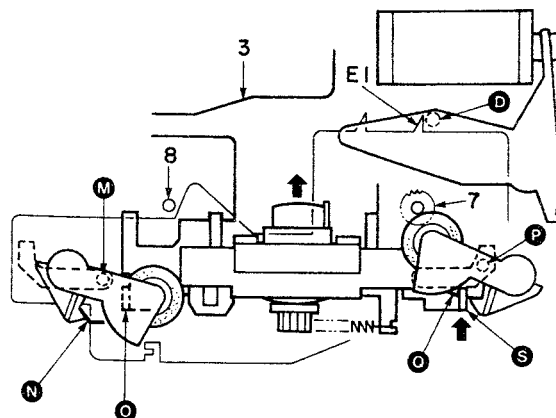

Fig. 7 (Perspective view from the front)
1-13) When the SUB-CHASSIS comes to the top, the spring (N) of the pinch roller (L) does not contact the SUB-CHASSIS edge (H) because the SLIDER is fixed in position of Fig. 7 by the pin (O) of the FD ARM, and the pinch roller is not pressed against the capstan because the boss (M) is held by the groove of the SLIDER.